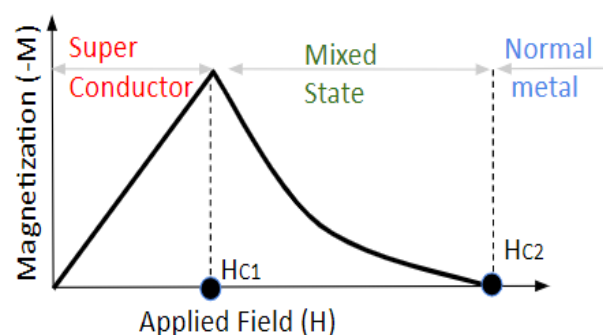

Figure 7d: Magnetization Vs Field (Type-II)
- As shown in Figure 7d the magnetization of Type-II superconductor **increases**